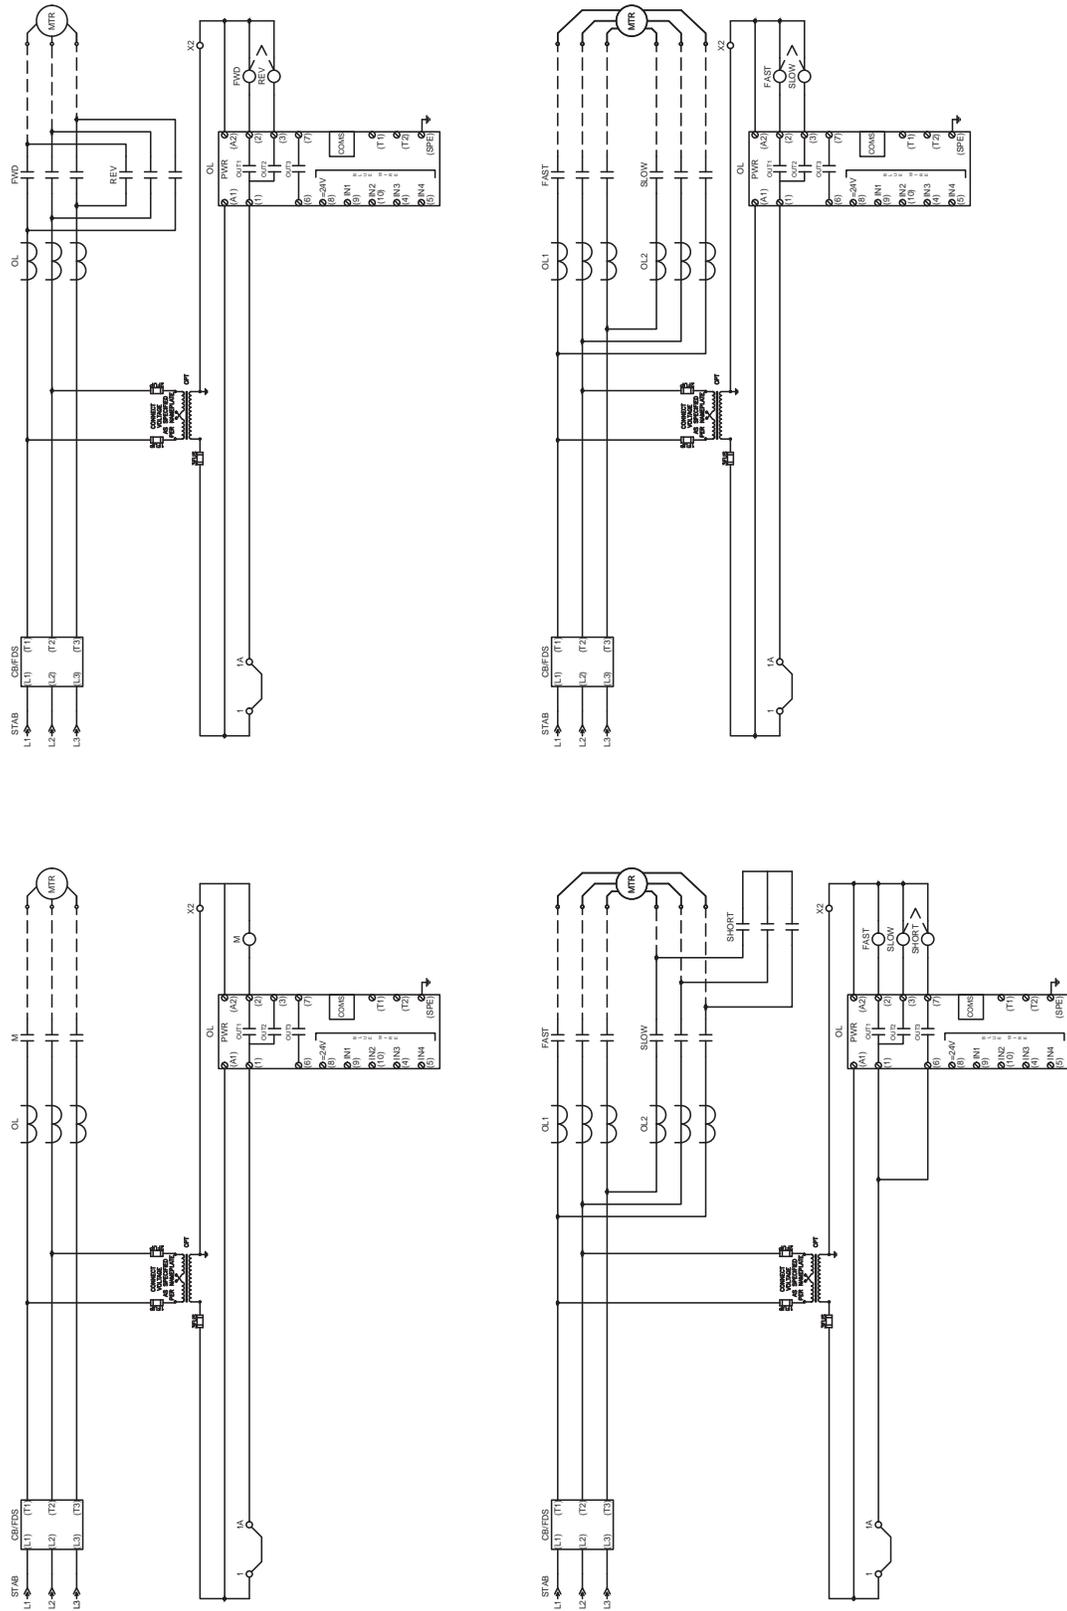

Figure 2
i. NONE/MAINTAINED BITS (see Figure 2):
ii. NONE/MOMENTARY BITS (see Figure 2):